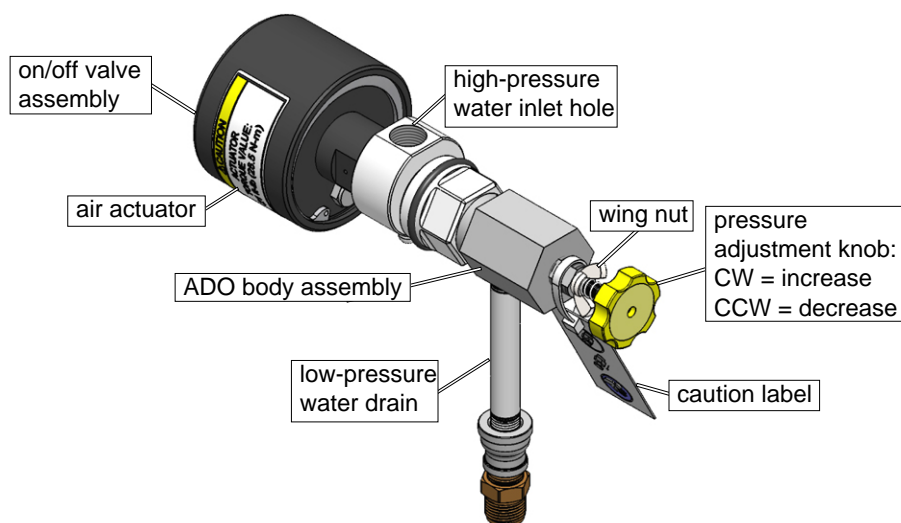
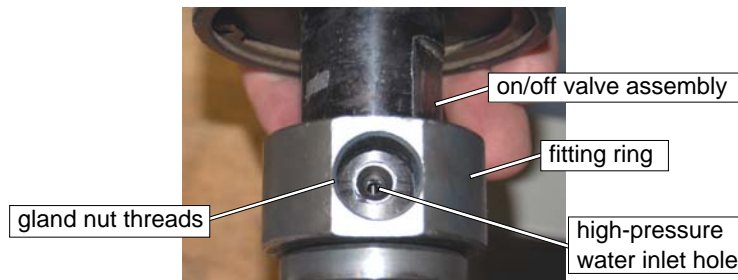
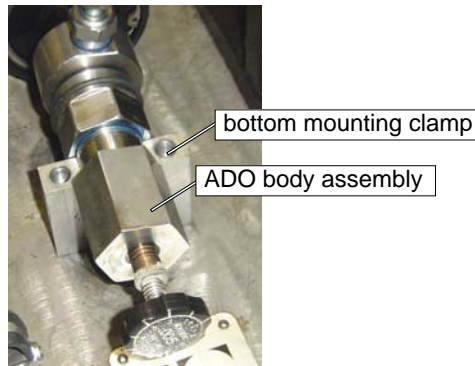
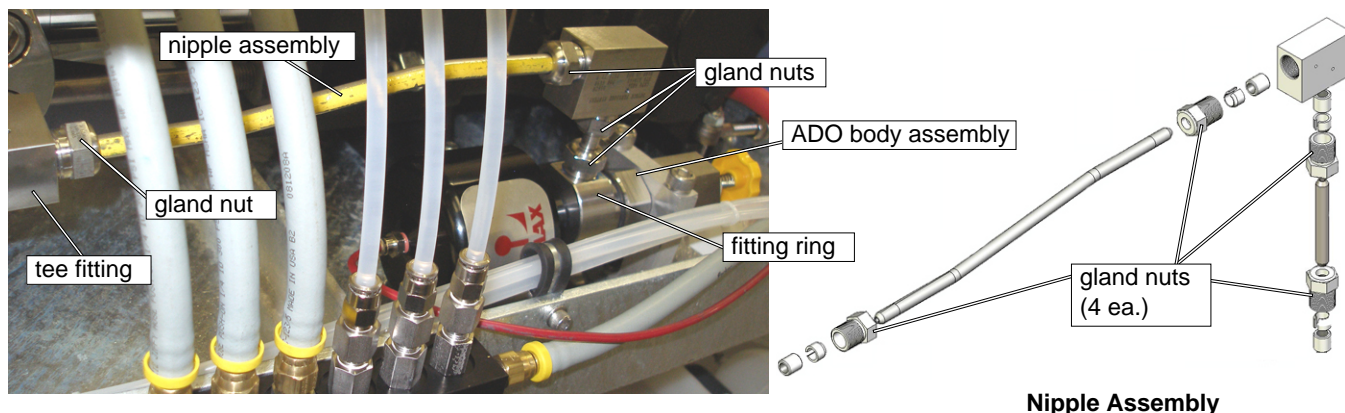

Figure 7: Remove the On/off Valve from the ADO Body Assembly
Figure 22: Aligning the Gland Nut Threads with the High-pressure Water Inlet Hole
Figure 23: Place the Body Assembly into the Bottom Mounting Clamp
Figure 25: Hand-tighten the Gland Nut in the On/off Valve
Note: *Before tightening the on/off valve to the body assembly, rotate the fitting ring and on/off valve assembly to align the threads of the fitting ring with the high-pressure water inlet hole in the on/off valve assembly (Figure 22). The water inlet hole aligned with the gland nut threads must be positioned to point up, 180 degrees from the side with the brass nipple pointing down. Refer to Figure 7. This alignment enables later installation of the nipple ring (Figure 25).*
3. Place the ADO assembly back onto the mounting clamp as illustrated in Figure 23 with the on/off valve pointing towards the safety valve (Figure 25) and the brass nipple inserted into the chassis hole:
5. Insert the nipple assembly's gland nut into the fitting ring in the on/off valve. Finger tighten only at this time. Refer to Figure 25.